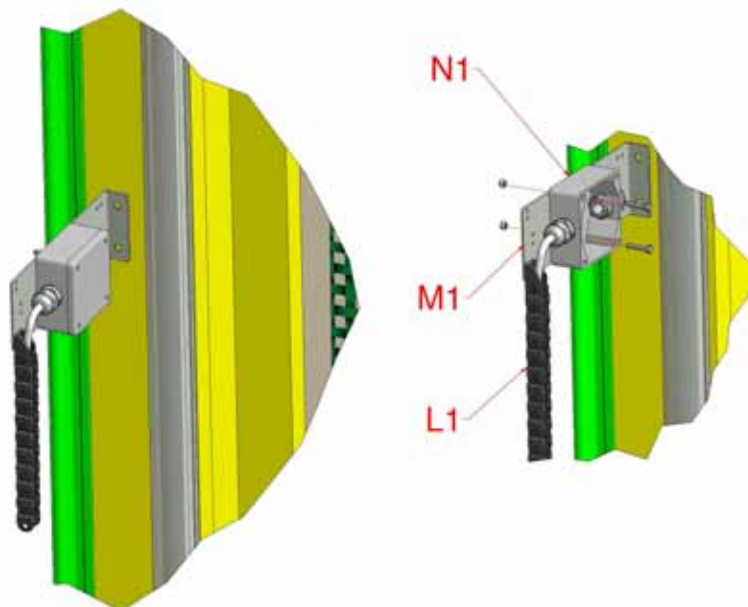

Figure 16, Junction Box Mounting
- 4.5 The wire from the Motor is to be fed through the Energy Chain supplied and connected to the Energy Chain Bracket attached to the Trolley Box. The Energy Chain is to exit around the bottom of the Trolley Box and up to attach to a Chain Bracket fitted to the Junction Box Mounting Bracket (M1) positioned as shown in Figure 16, at height approximately in the centre of the Curtain.